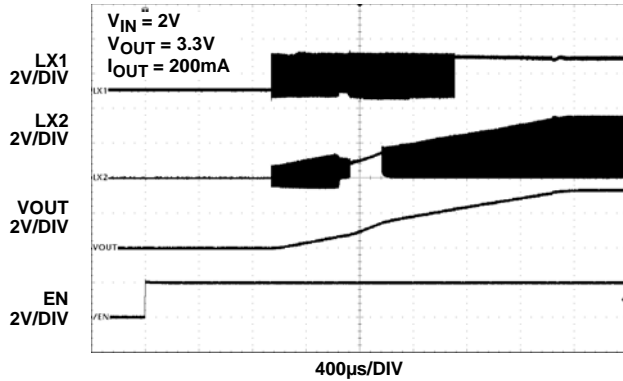
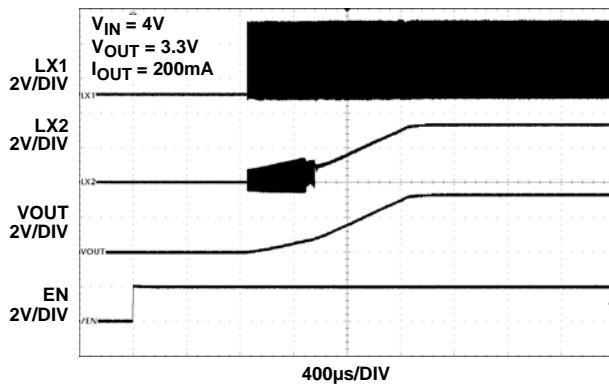

FIGURE 1. ISL9110 START-UP WITH $V_{IN} = 2V$ AND $V_{OUT} = 3.3V$
FIGURE 2. ISL9110 START-UP WITH $V_{IN} = 4V$ AND $V_{OUT} = 3.3V$
8. Monitor the output voltage start-up sequence on the scope. The waveforms will look similar to those shown in Figure 1 and Figure 2.